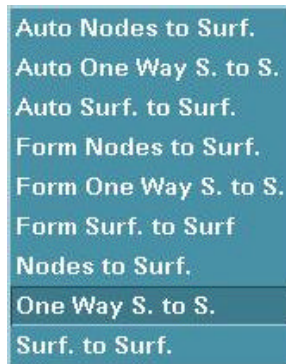

Figure 9.1.4 Contact Interface Type
- There are several contact interface types, see Figure 9.1.4.